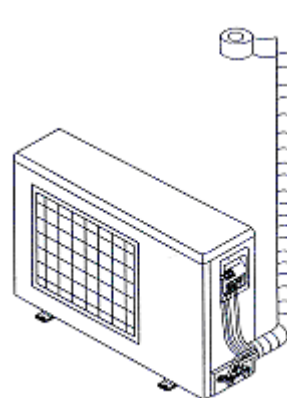

Figure 3-1-7
- ◆ Use thermal insulation tape to wrap the pipes from the bottom of the outdoor unit until the upper end of the pipe where the pipe enters the wall. When wrapping thermal insulation tape, the later circle of tape must cover half of the front circle of tape (Figure 3-1-7).